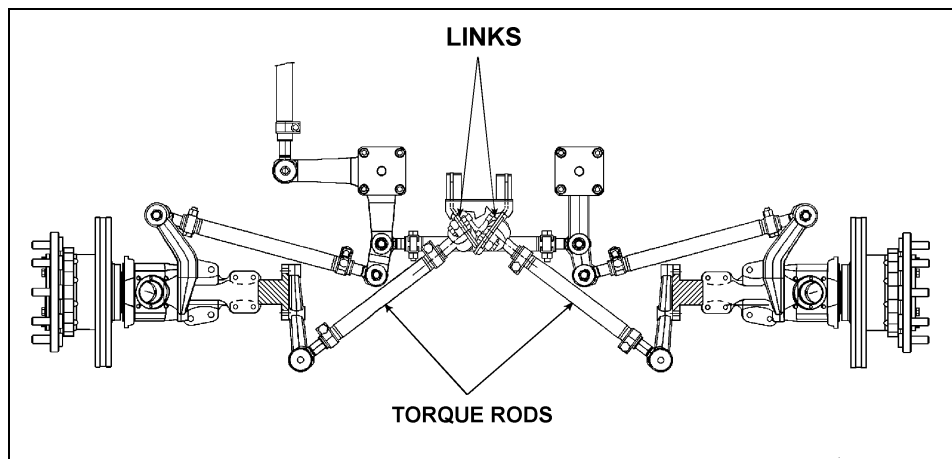

FIGURE 1: INDEPENDENT FRONT SUSPENSION LINKS
4. Remove the bolts from the torque rods links. Using a pry bar, move the torque rods out of the way to have access to the links bosses (refer to fig. 1).